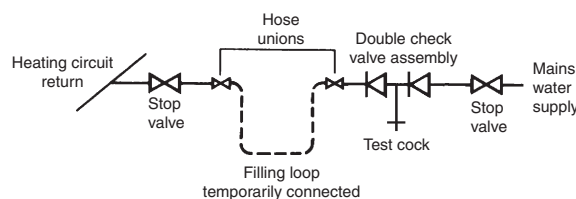

Fig. 7
3.8 FILLING THE CENTRAL HEATING SYSTEM - Fig. 7
Provision must be made for filling the system. This is done by the use of a filling loop. See Fig. 7. A filling loop is not supplied with this boiler.
Filling of the system must be carried out in a manner approved by the local Water Undertaking. Where allowed, the system may be filled via a temporary connection as shown in Fig. 7. After filling, always disconnect the flexible hose of the filling loop.